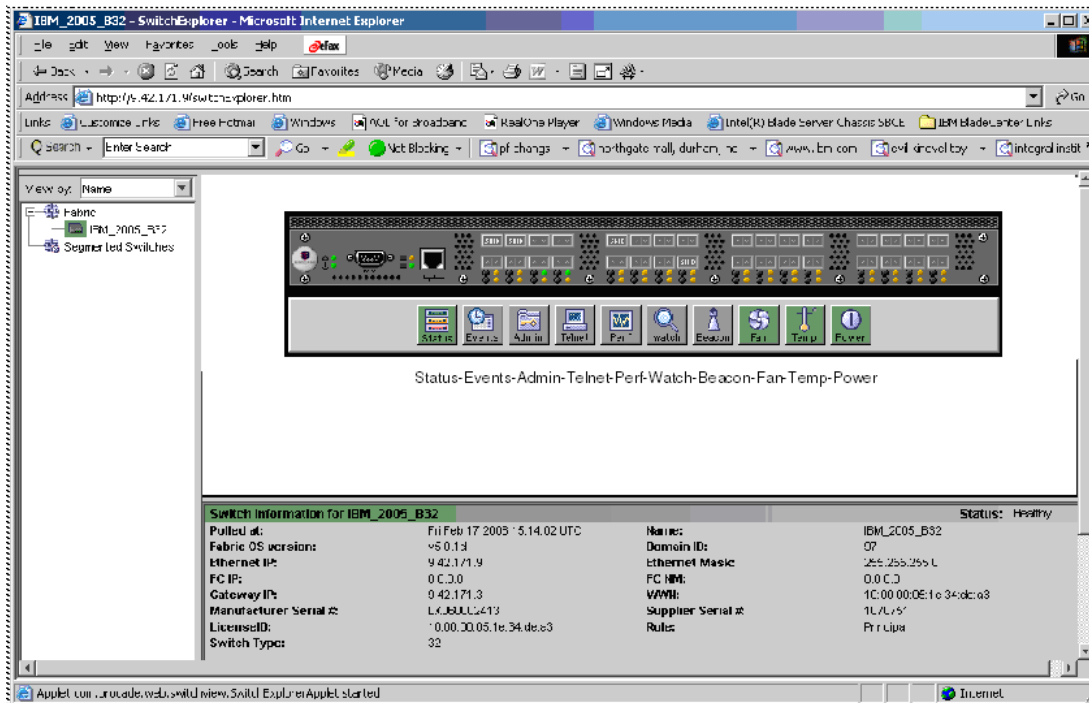

Figure 5-22 Web Tools initial window
2. From Internet Explorer (Windows) or Mozilla (Linux) browser, enter the IP address for your switch in the Address window box, then press the Enter key. You should see a Web Tools session open that is similar to Figure 5-22.
2. Using Brocade Advanced Web Tools, look in the switch information window to find the LicenseID (see Figure 5-22 on page 82).